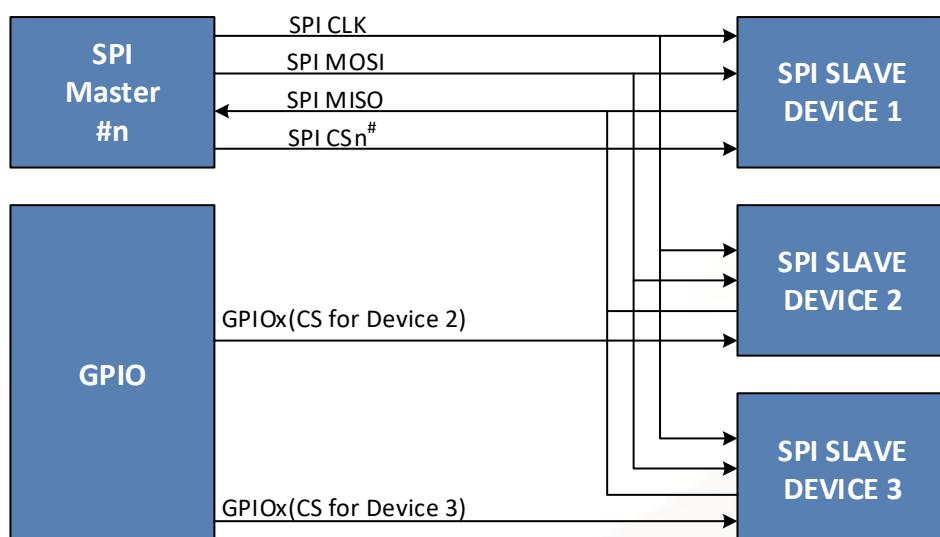

Figure 8-6. Pin connection between one master and multiple slaves in single mode
- CS GPIO mode (SPIn Base address+0x0018) [18]: The SPI_CS pin can be replaced by any GPIO pin. Software controls the GPIO pin as the SPI_CS pin, so a single SPI master can be selected and communicate with multiple SPI slaves. Figure 8-6 is the block diagram of the multi-slave topology for single mode. The CS pin for devices 2, 3, 4 and so on is replaced by the GPIOn pin.